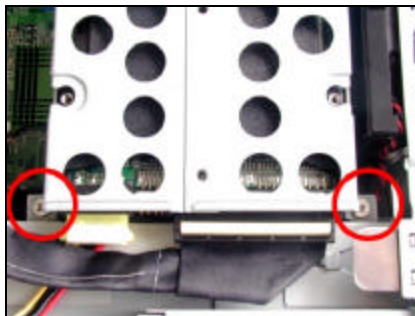

Figure 3.3.1
- i. Remove the metal rack from the Sabre system frame by loosening the two screws on the end away from the system's side, as shown in [Figure 3.3.1].
- iv. Fix it in position by screwing the tabs at the connector end to the unit frame, again as shown in [Figure 3.3.1] above.